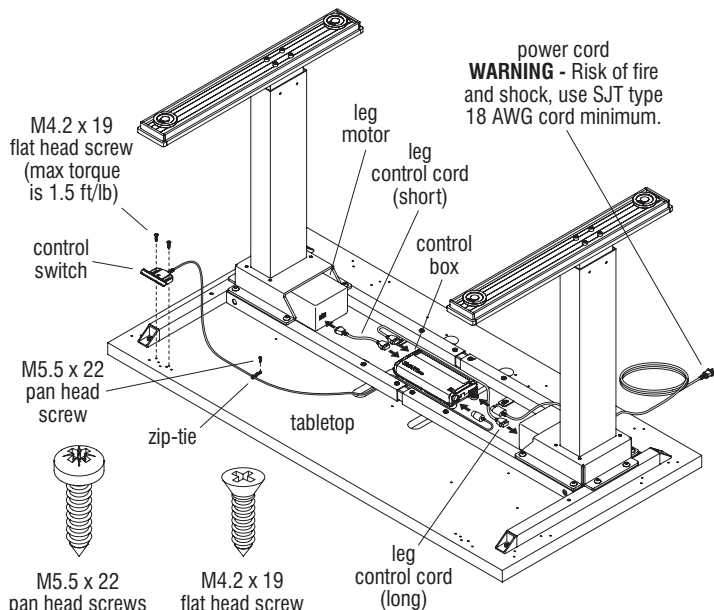

Figure 4
1. Plug the longer leg control cord into one of the two rectangular sockets on the control box, then route the cord to the leg farthest from control box. Use cut outs in the table to route under the cross tubes and/or use zip ties secured with screws at pre-drilled locations. Plug the other end of the longer leg control cord into the open socket on leg motor (Figure 4 & Detail C).
2. The next rectangular socket on the control box is utilized by the shorter leg control cord. Plug the short leg control cord into the control box and route it to the leg motor socket that is closest to the control box. Use cut outs in the table to route under the cross tubes. Plug other end of the shorter leg control cord into the open socket on leg motor (Figure 4 & Detail C).
Note: Do not overtighten the screws. Once switch is mounted, route the attached cord to the control box. Use Figure 4 for cord routing reference and for the optimal usage of zip-tie points. Once the control switch cord is routed to the control box, plug the cord into the round socket on the box (Figure 4 & Detail D).
4. Six zip-ties are included for keeping cords tight to the table, but it is not necessary to use all six. Using Figure 4 for reference, wrap the zip-ties around the loose cords and then mount the zip-tie to the tabletop with a M5.5 x 22 pan head screw into the pre-drilled holes. The zip-ties have a built in mounting hole which must lay flat onto the surface. Make sure zip-ties and cables are snug before moving to next step (Figure 4 & Detail E).
5. The final cord to be installed is the power cord. Plug the power cord into the remaining open socket which is oval shaped. Cord should not be zip-tied or routed through cord routing slots on the table (Figure 4). Do not plug it into a power source at this time.